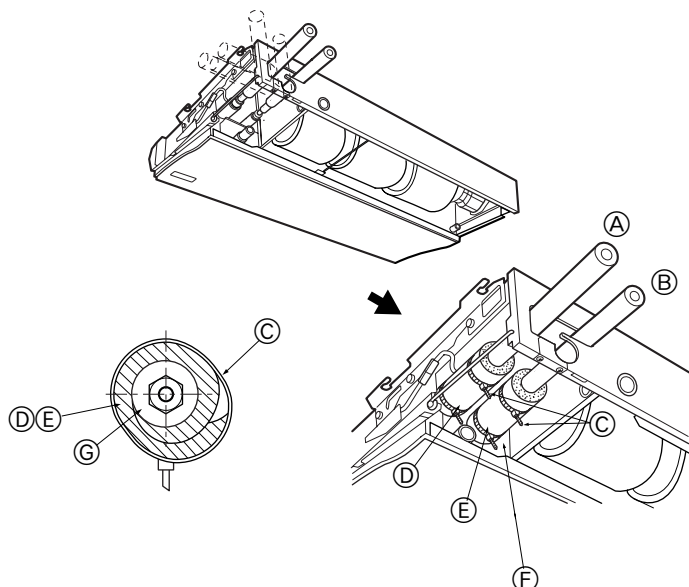

Fig. 4-2
- (C) Apply refrigerating machine oil over the entire flare seat surface.
4.2. Indoor unit (Fig. 4-2)